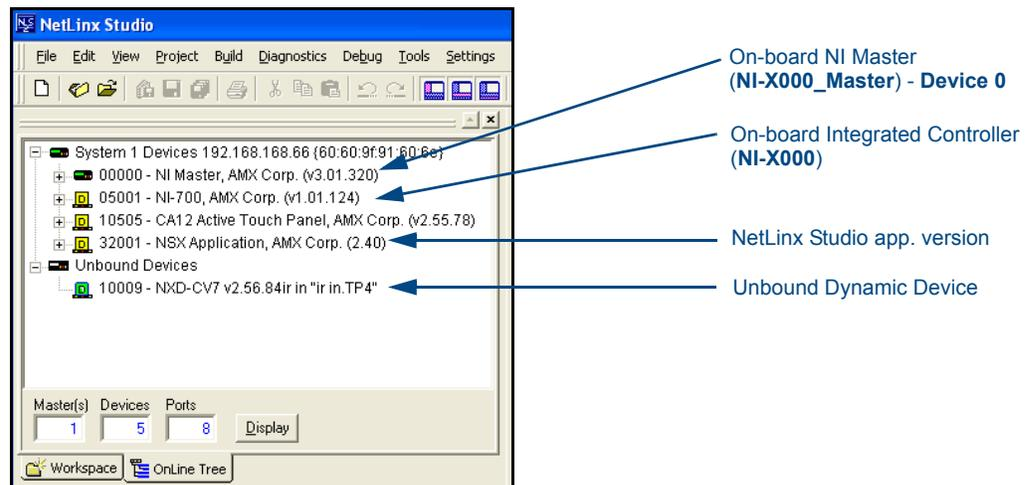

FIG. 30 Sample NetLinx Workspace window (showing SEPERATE NI-Master and Controller)
- After NetLinx Studio has established a connection to the target Master, click the **OnLine Tree** tab of the Workspace window to view the devices on the System. The default System value is one (1).
- After the Communication Verification dialog window verifies active communication between the PC and the NI unit, verify that the device appears in the **OnLine Tree** tab (FIG. 30) of the Workspace window (*ex: NI-3101*). This entry is different than that of the NI Master, which uses a device value of 00000 (see below):